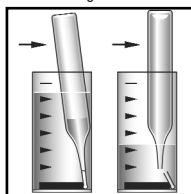

Figure 2
6. Place the CHEMet ampoule, tip first, into the sample cup. Snap the tip. The ampoule will fill leaving a bubble for mixing (fig. 2).